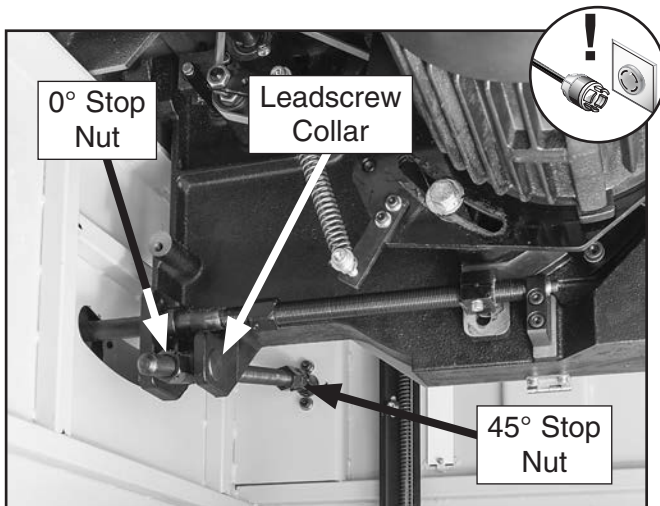

Figure 153. Blade tilt stop nuts.
3. Open cabinet door and identify stop nuts shown in **Figure 153**.
Use a similar procedure for the 45° stop nut shown in **Figure 153**, as previously instructed for the 0° stop nut.